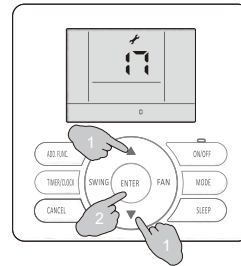

fig.5
2. Press  or , and the parameter code increases or decreases by 1 accordingly. When 17 displays, press ENTER button to rewrite EE parameter of the indoor unit, at the same time, the symbol  lights and EE parameter code 00 blinks.(See fig.5)